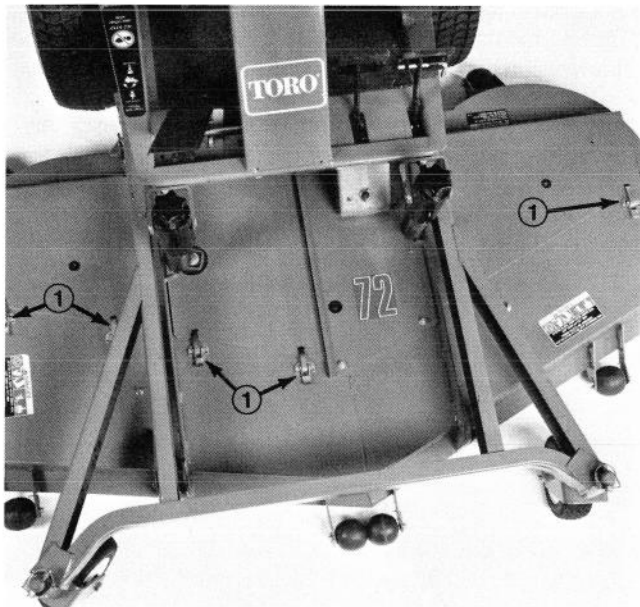

Figure 33
2. Release and unhook latches securing covers to top of cutting unit. Remove covers (Fig. 33).